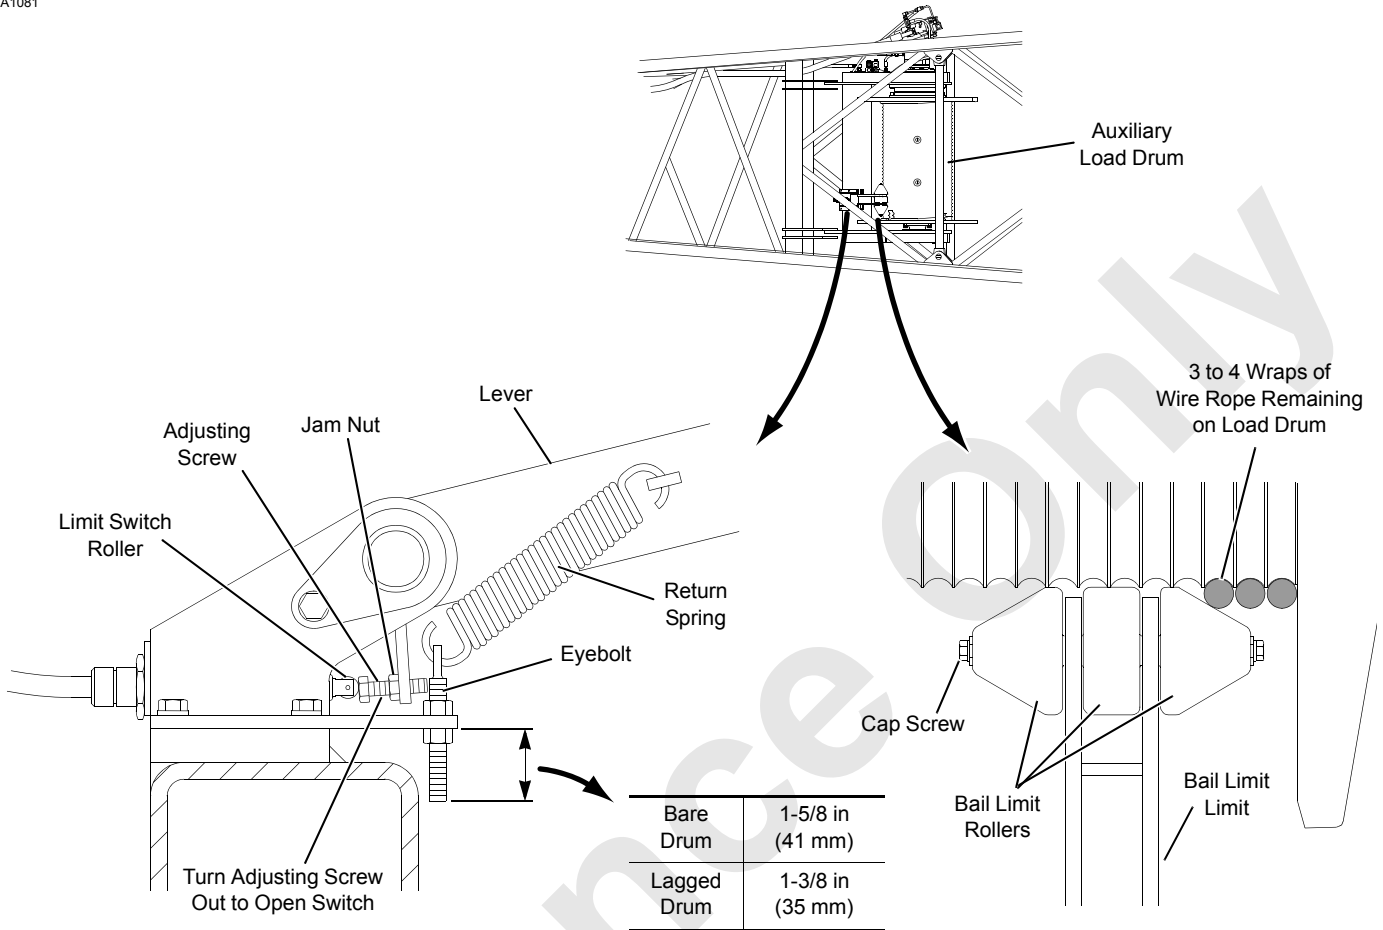

FIGURE 5-3
See Figure 5-3
6. Adjust return spring eyebolt to dimension shown in Figure 5-3.